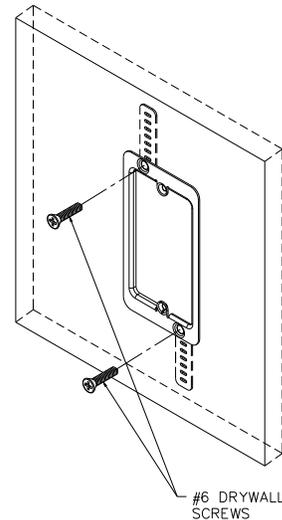

Figure 5
2. After drywall has been cut, install a metal cut-in ring wall mounting plate, (available separately from tii). Bend the two mounting tabs behind the drywall and secure the mounting plate with the supplied drywall screws, (See Figure 5). Align the mounting tab slots while tightening the screws.